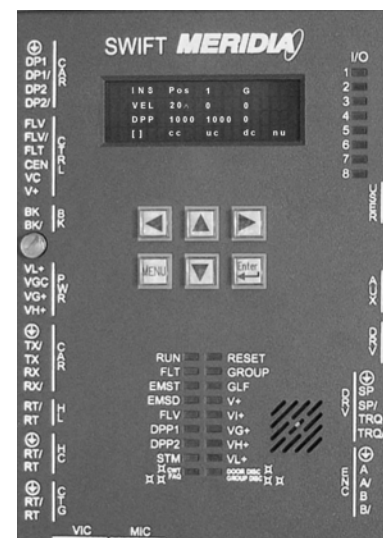

Figure 2-12
2. Scroll down to **Set UP Mode Sel** (this mode allows you to move the car without the cartop devices installed) and press <ENTER>. This should start the STM LED to start flashing orange. [See Figure 2-12.]